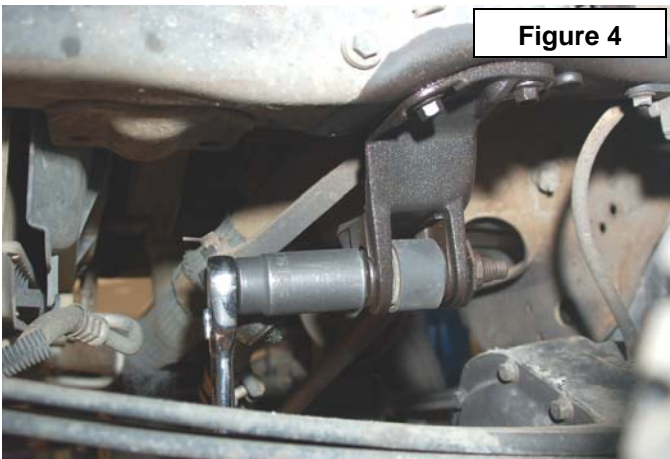

Figure 4
8. Remove the factory track rod from the axle and the frame using a 30mm socket / wrench. Remove the factory track bar. **See Figure 4 & 5.**